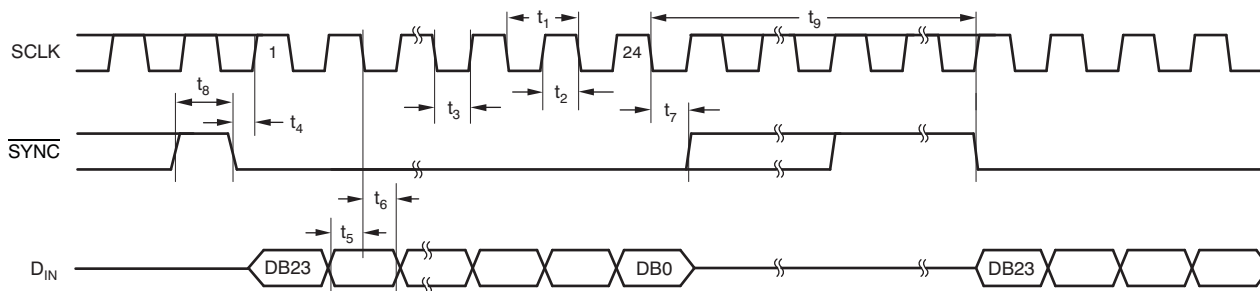

Figure 1. Serial Write Operation
(1) All input signals are specified with t_R = t_F = 5 ns (10% to 90% of V_{DD}) and timed from a voltage level of (V_{IL} + V_{IH}) / 2.
(2) See Figure 1.
(3) Maximum SCLK frequency is 30 MHz at V_{DD} = 3.6 V to 5.5 V and 20 MHz at V_{DD} = 2.7 V to 3.6 V.